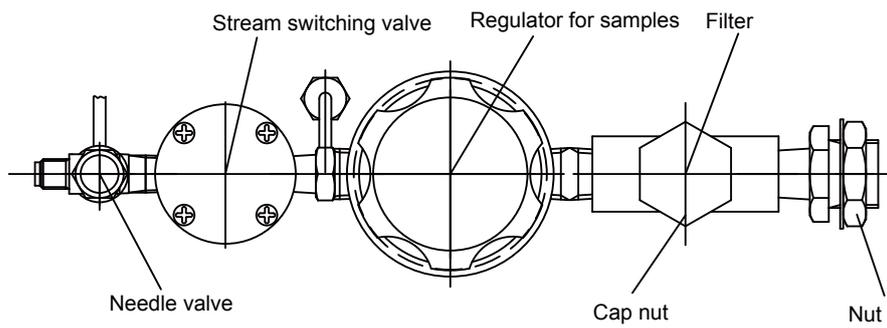

Figure 6.44 Example of Sample Processing System (May contain a Stop Valve depending on the system)
- (6) Remove the two pipes connected to the needle valve shown on the far left of Figure 6.44.
- (7) Remove the nut on the outside of the analyzer unit.
- (8) Remove the sample processing system from the analyzer.
- (9) Remove the component and install a new component.
- (10) Reassemble the sample processing system in the reverse order of steps (7) to (9).